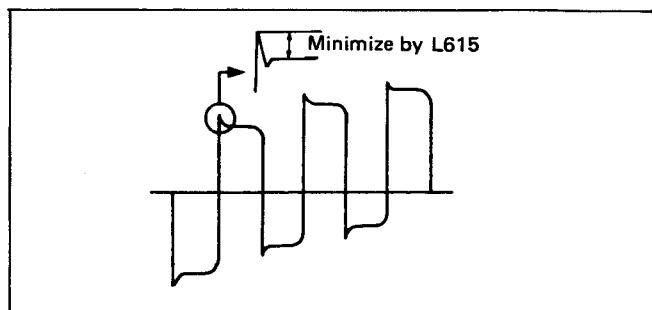

Fig. 35
- Adjust L615 to achieve waveform shown in Fig. 35.